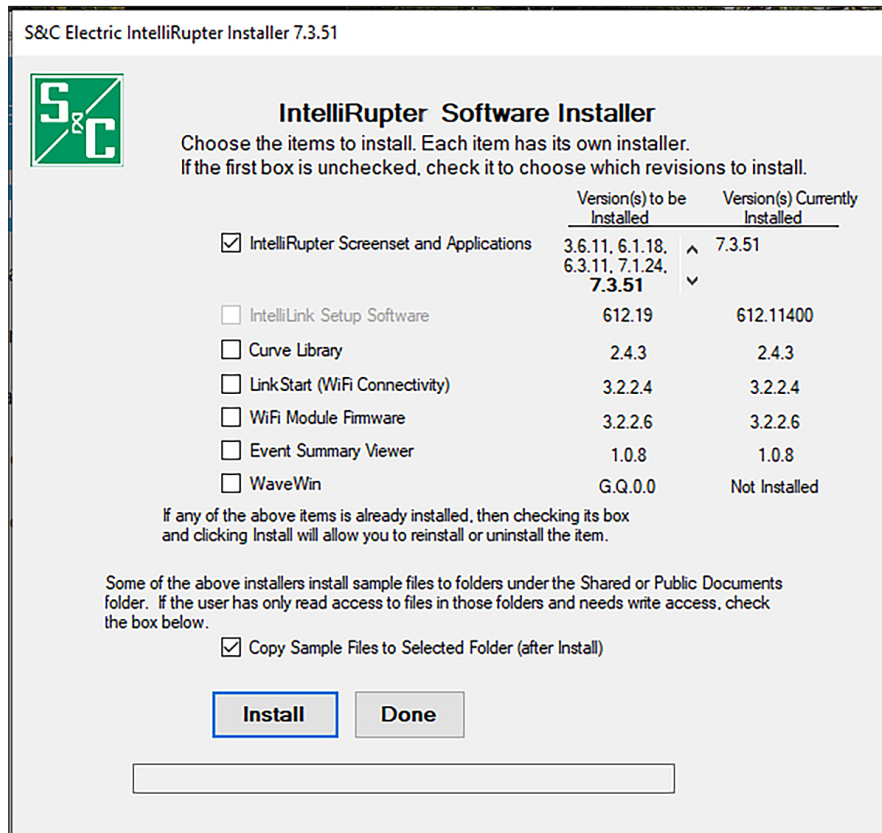

Figure 7. Installed IntelliRupter fault interrupter software revisions are shown when installation is complete.
STEP 12. When installation is complete for all selected components, the IntelliRupter Software Installer dialog box will open and show the revision number of each installed software component in the right-hand column. See Figure 7.